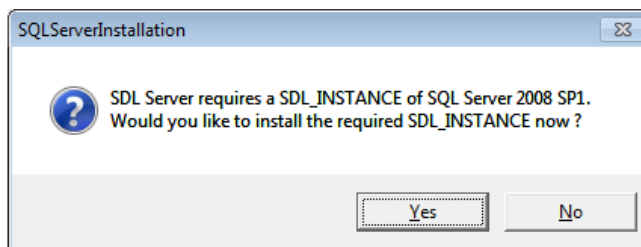
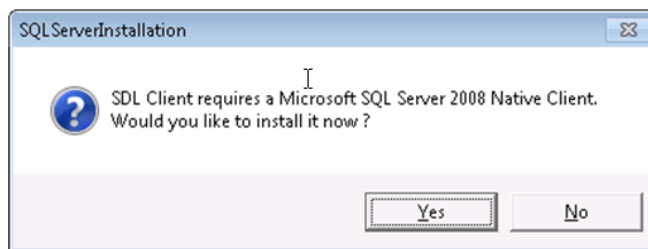

Figure 23. Message Box for SDL Server Installation Type
Figure 24. Message Box for SDL Client Installation Type
- c. **Message box:** The message box differs depending on what was selected in the Setup Type dialog box in Step b. Figure 23 shows the message box for the SDL Server installation type and Figure 24 shows the message box for the SDL Client installation type. Click **Yes** to continue with the installation. Proceed to Step d for SDL Server installations and proceed to Step m for SDL Client installations.